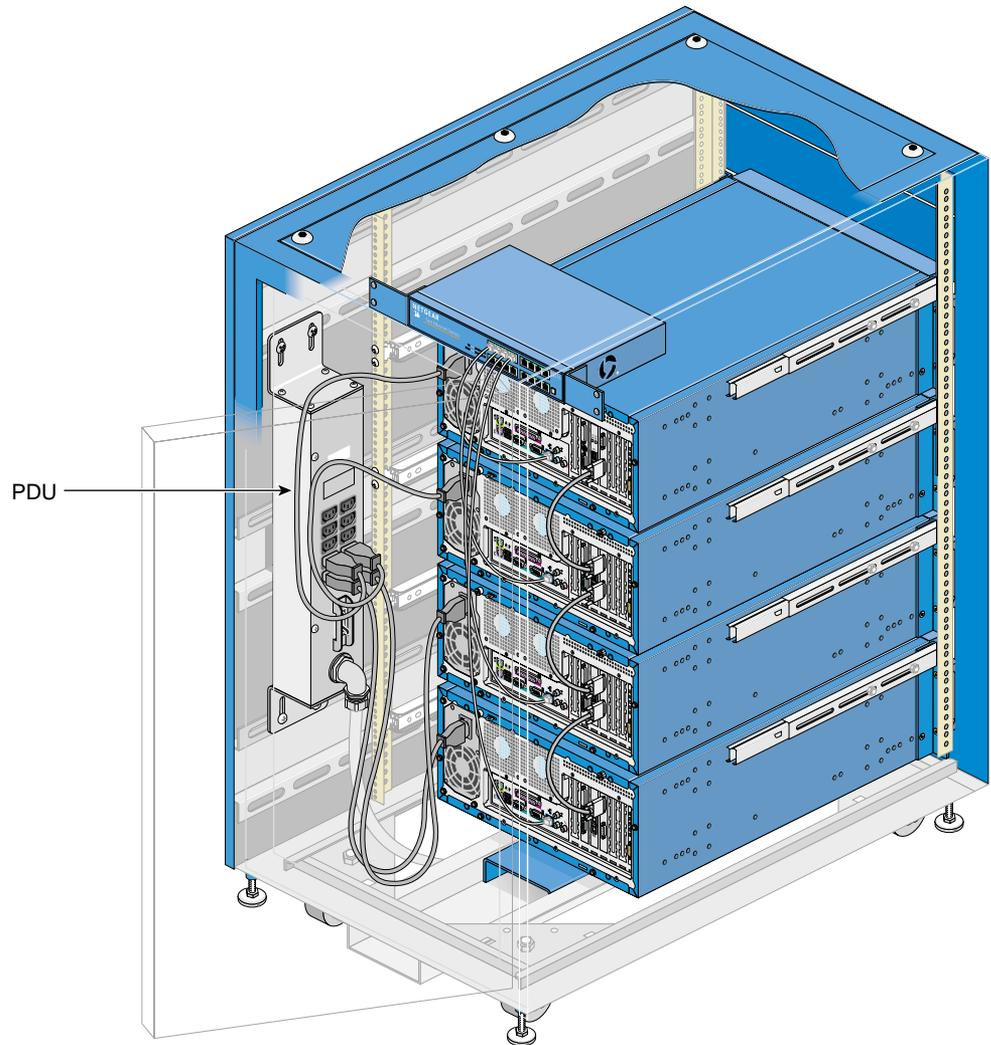

Figure 1 Rack PDU and Node Cables
1. Open the rear door of the rack. Check that the power cord of each node is plugged into the rack's power distribution unit (PDU). See Figure 1.
6. Power on the rack PDU with its circuit breaker; see Figure 1 on page 4.